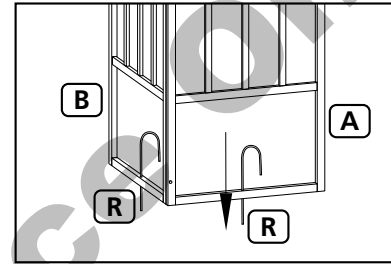

Fig. 12
Insert eight Stakes (R) through eyelets found at the bottoms of Left Panel (B), and Right Panel (A), see Fig. 12. Use a hammer (not included) to gently tap the Stakes (R) in place, securing the frame to the ground.